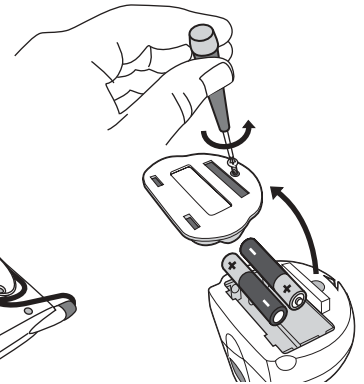

Fig. 4
2. Place batteries in compartment as shown (Fig. 4).